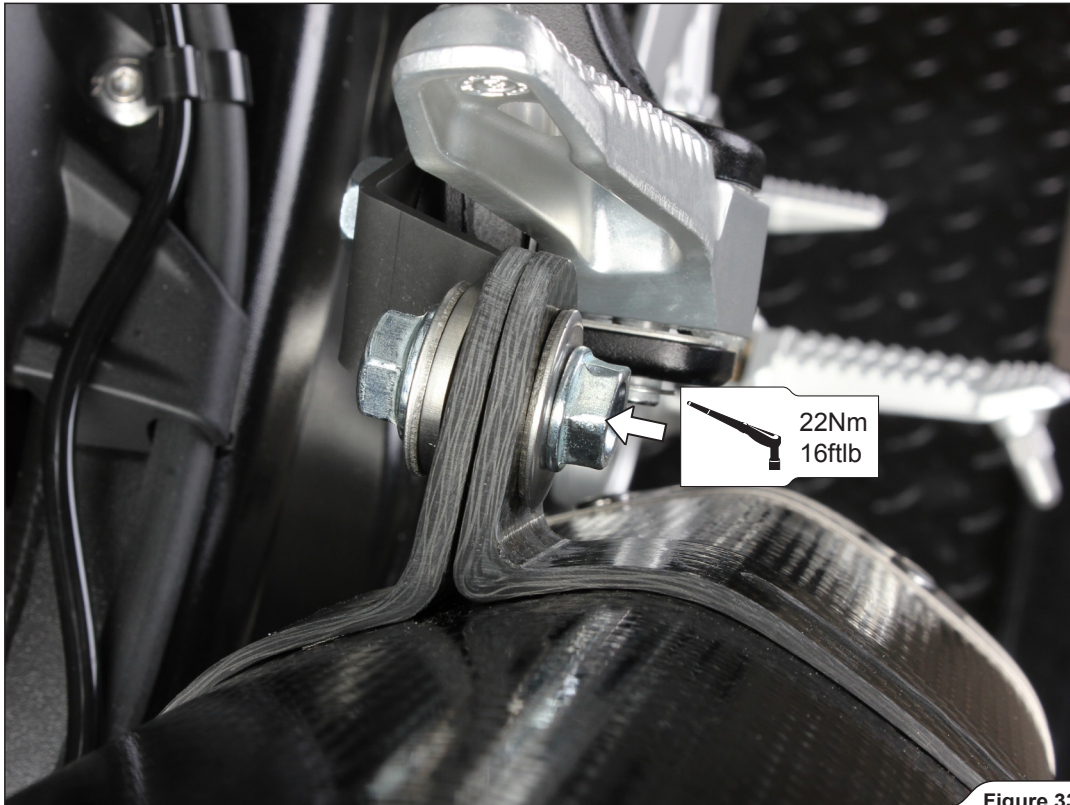

Figure 33
10. Align the muffler in respect to the motorcycle and tighten the clamp to the muffler bracket (Figure 33).